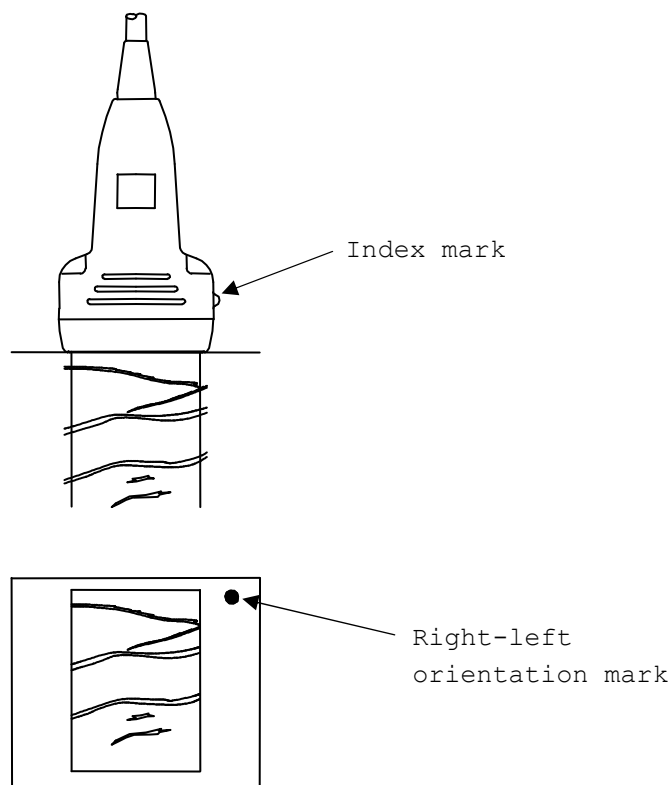

Fig. 2 Relationship between the directions of the probe and the Right-left orientation mark
- 3) Confirm the direction of the probe. The relationship between the direction of the probe and image is shown in Fig. 2. The Right-left orientation mark on the image indicates the direction of the index mark of the probe.